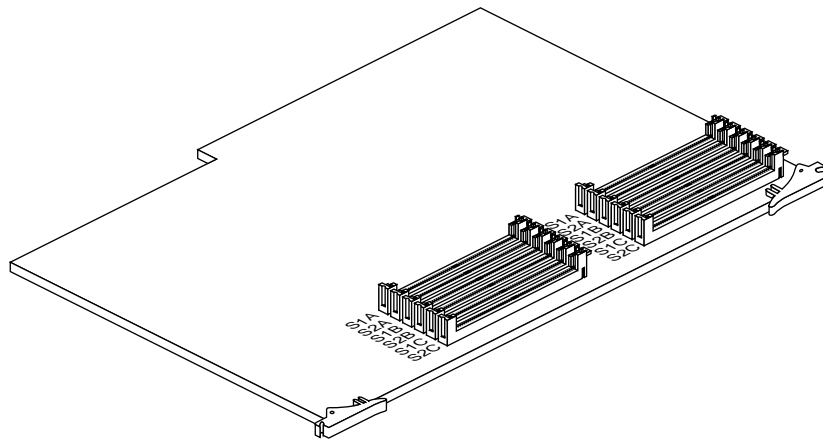

Figure 3-5 Locating the SIMM Sockets
1. Orient yourself to the CPU board so the SIMM sockets are closest to you and the connectors are facing away from you, as shown in Figure 3-5.
The SIMM sockets are labelled in groups A, B, and C, as shown in Figure 3-5. Your system already has at least four SIMMs installed in the group labelled S1A, S2A, S3A, and S4A. (If you have an IRIS Indigo R3000, these sockets are labeled A1, A2, A3, and A4.)
- Orient the CPU board, as shown in Figure 3-5.